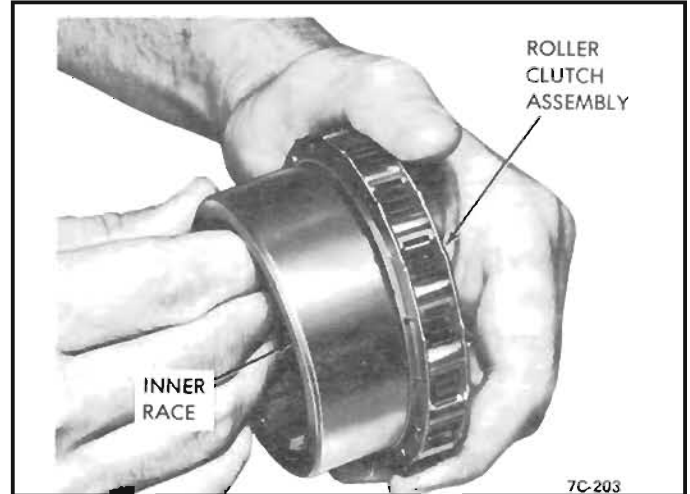

Figure 73 Checking Roller Clutch
1. Install low and reverse roller clutch assembly to inner race. The inner race should free wheel in the clockwise direction only. *See Figure 73.*